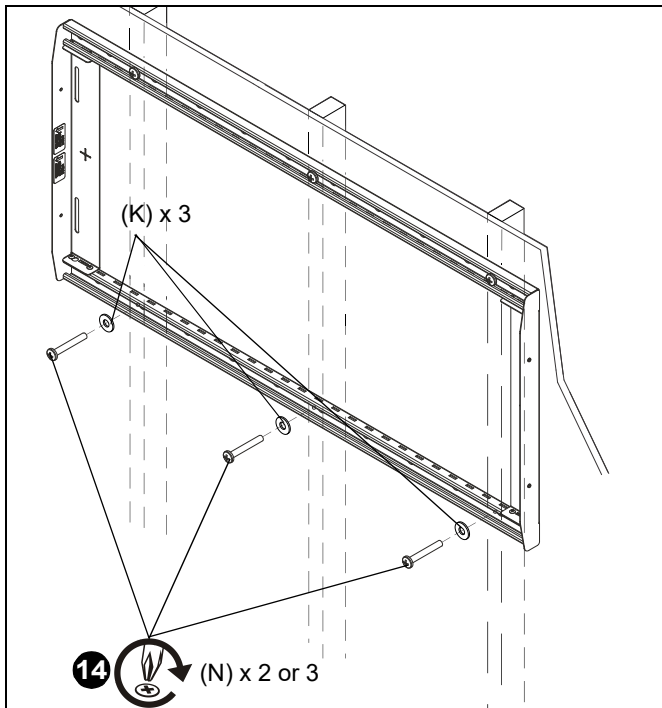

Figure 8
- Tighten screws (J) to secure rail assembly (C) to wall at upper mounting slots. (See Figure 8)
- Use two or three 1/4-20 x 2" Phillips pan machine screws (J) and two or three 1/4" washers (K) to attach the mount to the wall through the lower mounting holes. (See Figure 8)